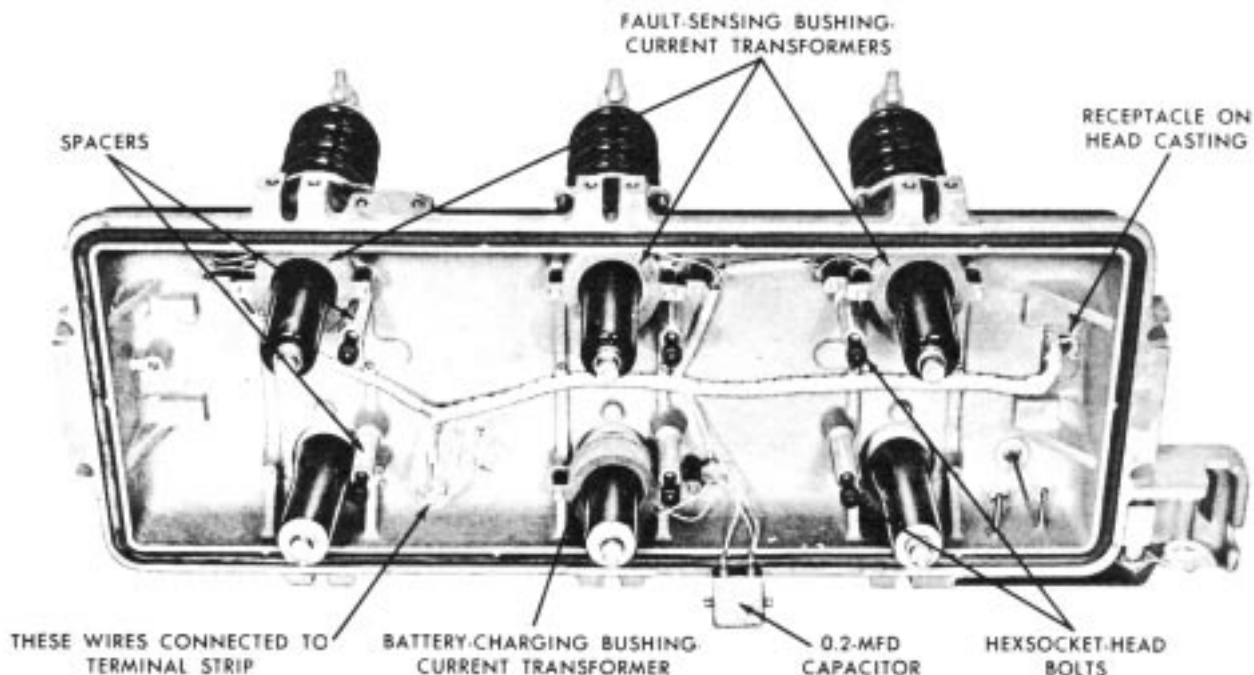

Figure 24
6. Remove the six 1/2" x 4-1/2" hexsocket head bolts that secure the frame to the head casting. Be sure the recloser mechanism is supported from below before these bolts are removed. Six tubular spacers and lock washers will be released when the bolts are removed and the head is lifted from the recloser-mechanism frame. Figure 24 shows head casting and associated components removed from the mechanism frame.